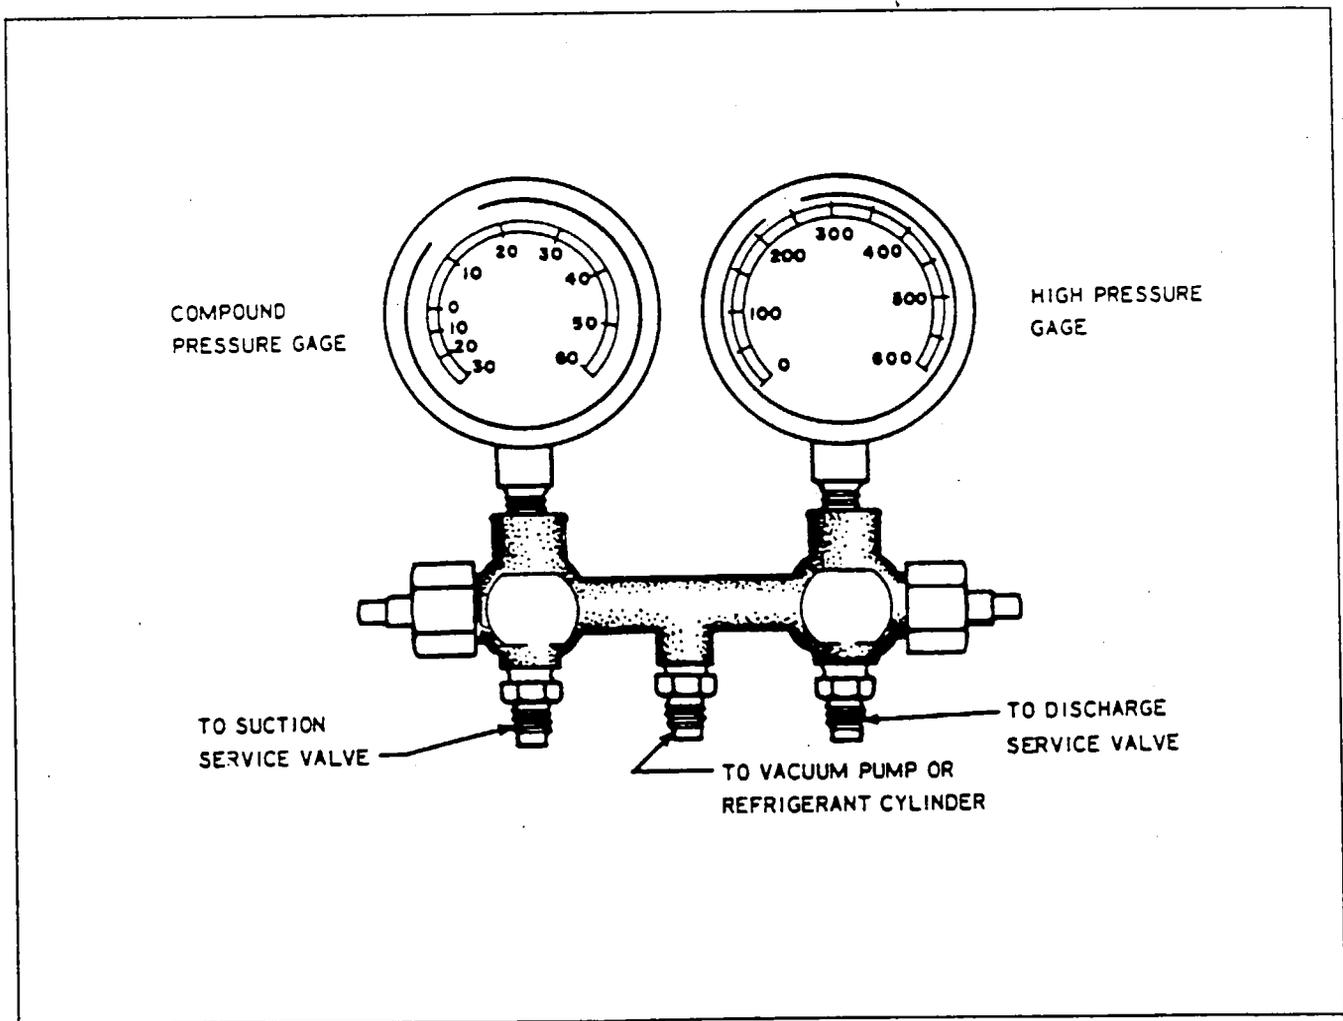

Figure 21-21. Test Gauge and Manifold Set
The proper testing and diagnosis of the air conditioning system require that a manifold gauge set be attached into the system. This set consists of two gauges mounted to a manifold. One gauge is a high pressure gauge used in the discharge side of the system. The other is a low pressure gauge used in the suction side of the system. The manifold is a device having fittings for both gauges and connection hoses with provisions for controlling the flow of refrigerant through the manifold. (See Figures 21-21 and 21-22.)
Cracking the hand valve, in the counterclockwise direction, opens the system to the middle service port of the manifold set. This is desirable only when it is necessary to let refrigerant out or into the system. (Refer to Figures 21-21 and 21-22.)
3. The high and low manifold hand valves should be in the closed position. ( Refer to Figures 21-21 and 21-24.)